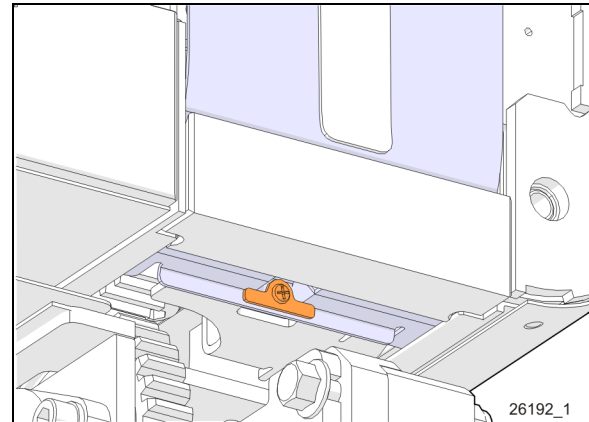

FIGURE 23: TAB AND RETAINING SCREW
If it is damaged or cracked, it must be replaced. The flexible cover is fixed by a tab and mounting screw. (Figure 23)
Unscrew the retaining screw (Figure 23)
3. Unscrew the flexible cover retaining screw (Figure 23)